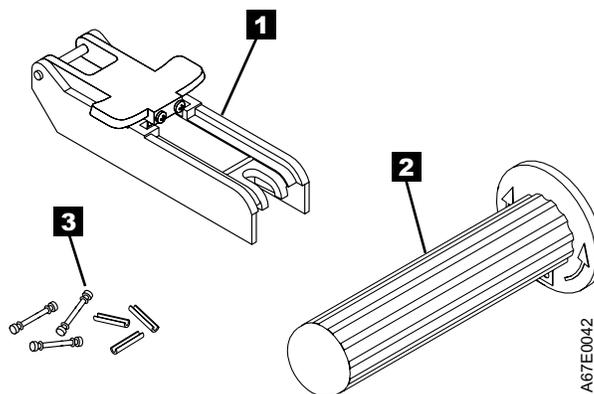

Figure A-7. Leader Pin Reattachment Kit
- **Leader pin attach tool** (see **1** in Figure A-7). A plastic brace that holds the cartridge door open.
- **Cartridge manual rewind tool** (see **2** in Figure A-7). A device that fits into the cartridge's hub and lets you wind the tape into and out of the cartridge.
- **Pin supplies** (see **3** in Figure A-7). Leader pins and C-clips.